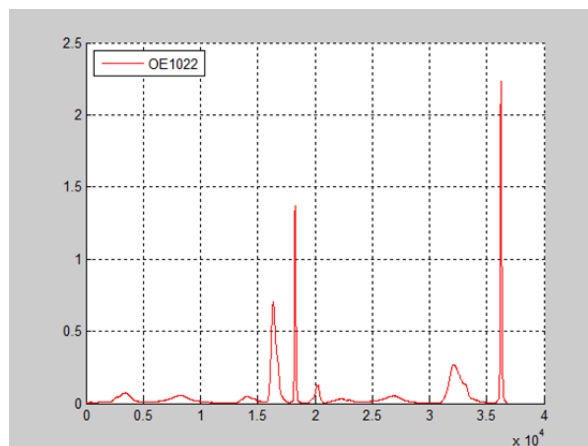

Fig.101 OE2031 Detected Spectrum Curve Chart
4. Start the spectral measurement and collect data from the data collection platform. Then, you will get an uncalibrated spectral image as is shown in Fig.101